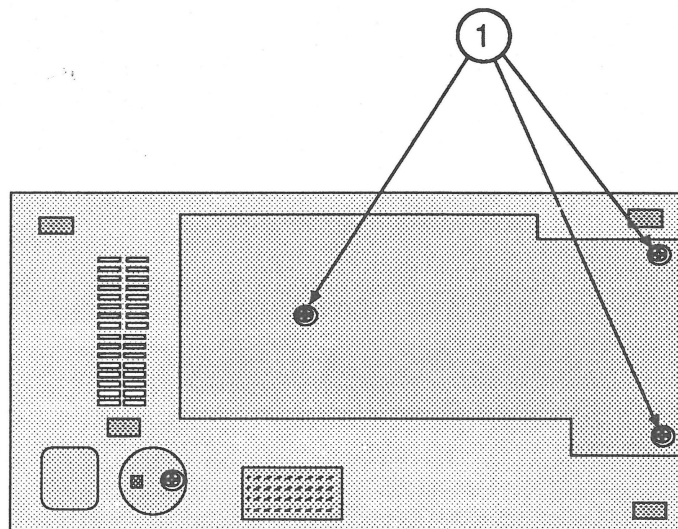

FIGURE 38
4. Use the three screws to install the bottom panel (Figure 38 #1).